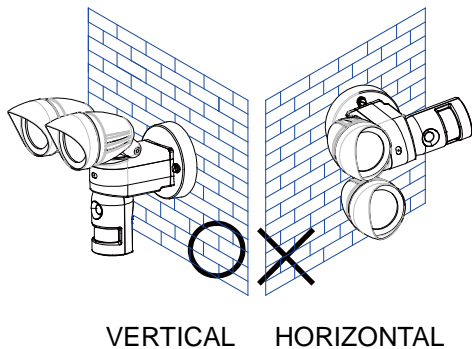

FIGURE 33a & 33b
- When mounting on the wall, the unit must be installed vertically (FIGURE 33a), not horizontally (FIGURE 33b).